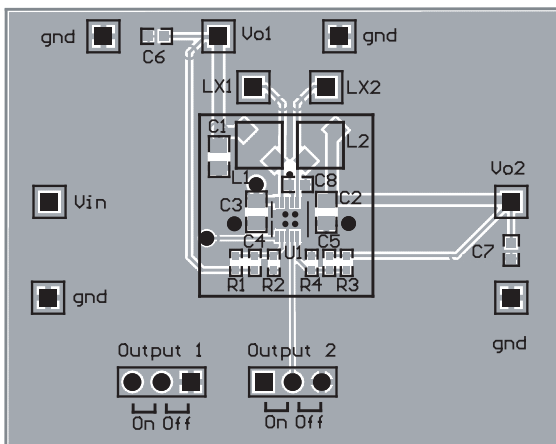

Figure 4: AAT2512 Evaluation Board Top Side.
The proper placement of the input capacitor (C3 and C8) can be seen in the evaluation board layout in Figure 4. Since decoupling must be as close to the input pins as possible, it is necessary to use two decoupling capacitors. C3 provides the bulk capacitance required for both converters, while C8 is a high frequency bypass capacitor for the second channel (see C3 and C8 placement in Figure 4).
1. Due to the pin placement of V_{IN} for both converters, proper decoupling is not possible with just one input capacitor. The large input capacitor C3 should connect as closely as possible to V_P and GND, as shown in Figure 4. The additional input bypass capacitor C8 is necessary for proper high frequency decoupling of the second converter.